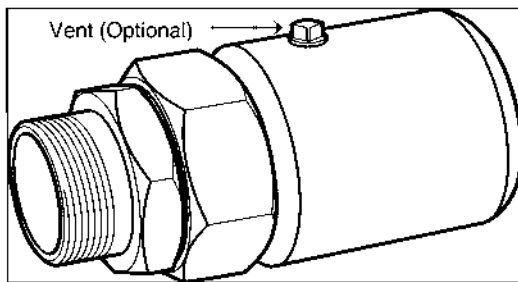

Figure: 4-46
- **TracPipe PS-II fittings** are constructed from **TracPipe® CounterStrike®** patented **AutoFlare®** fittings with a plastic containment coupling and 1/4 inch NPT vent port. Fittings assemble without special tools. Figure 4-46